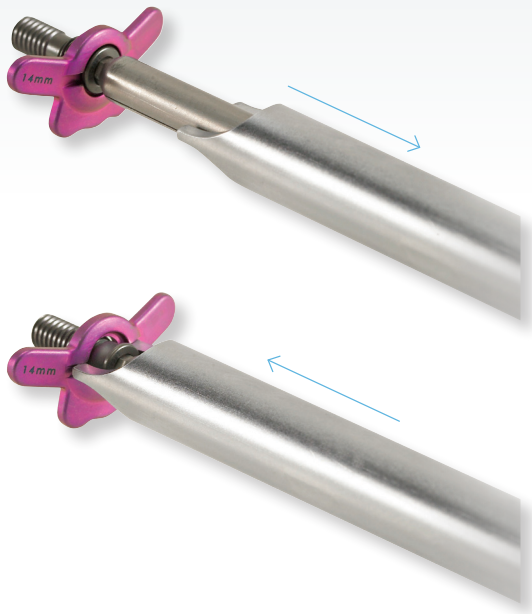

Figure 29:
- Load the cover plate onto the cover plate driver assembled on the ratcheting torque handle by pulling back on the sleeve to engage the hex driver into the set screw. Release the sleeve and align the tabs into the grooves on the cover plate (**Figure 29**).